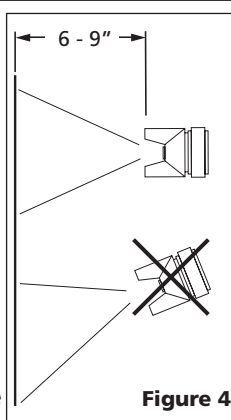

Figure 4
1. Begin spraying. Always keep the gun at right angles to the work. (See Figure 4.)